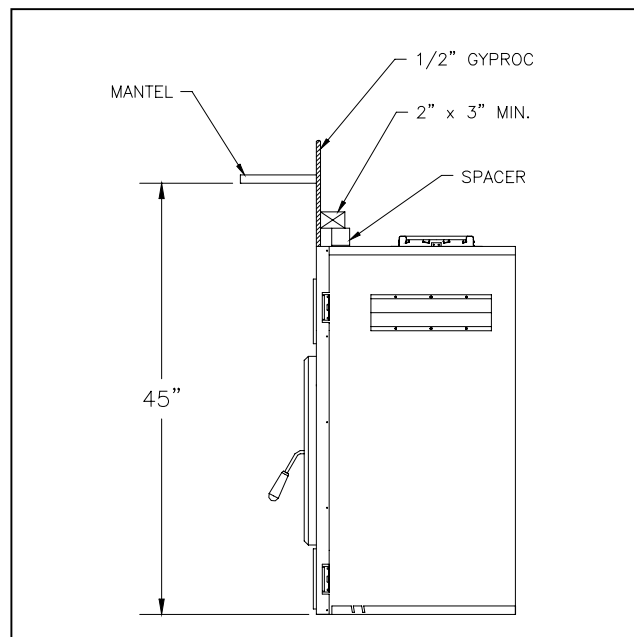

Figure 11
1. Combustible material must be installed flush with the fireplace. It may not project in front of and on the fireplace (i.e. the steel façade of the fireplace) (figure 11).
The mantel must be installed at least 45" (1143 mm) above the base of the fireplace (figure 11).